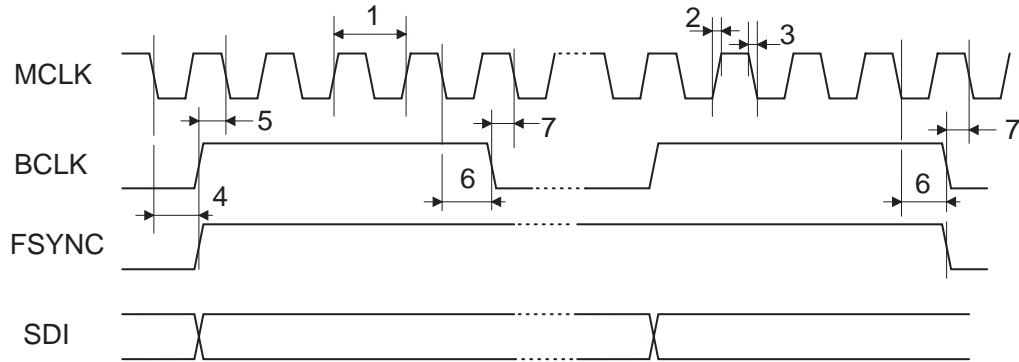

Figure 18: LFS, timing diagram
*see figure 18, 19 for LFS and 20, 21 for SFS